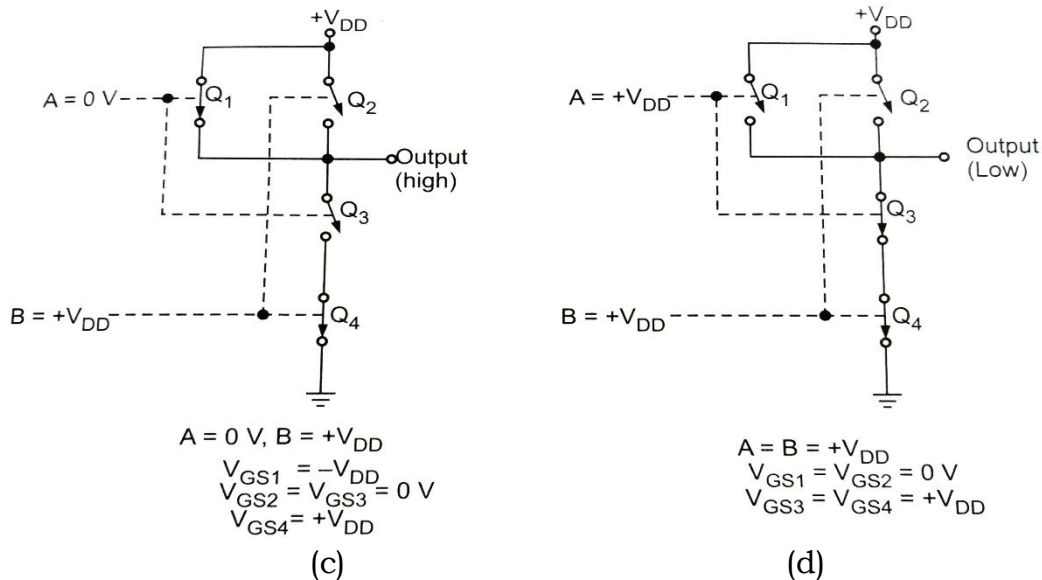

Figure 1.28: CMOS NAND gate
- Figure 1.28 shows CMOS 2-input NAND gate.
- Since the gate-to-source voltages of Q3 and Q4 (n-channel MOSFETs) are both 0V, those MOSFETs are Off. The output is therefore connected to +V_{DD} (HIGH) through Q1 and Q2 and is disconnected from ground, as shown in the figure 1.28 (b).
- And figure 1.28(c) shows the equivalent switching circuit when A = 0 and B = +V_{DD}. In this case, Q1 is on because $V_{GS1} = -V_{DD}$ and Q4 is ON because $V_{GS4} = +V_{DD}$.